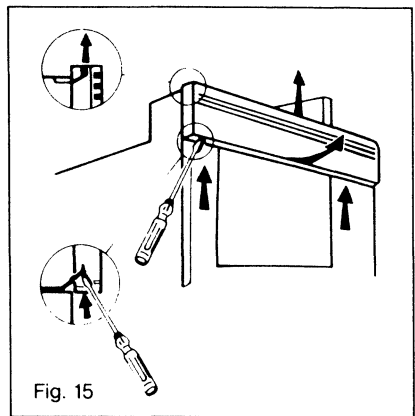

Fig. 15
**Build-in model (TL 13 W)** (fig. 15 and 16)